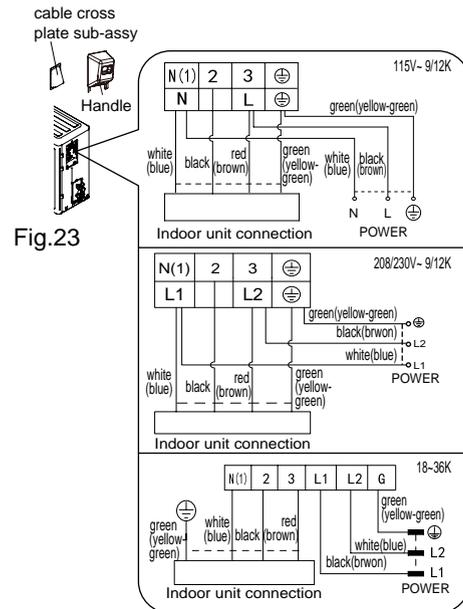

Fig.23
- (1) Let the connection wire sleeve go through the two holes of baffle; tighten the connection joint of sleeve and baffle; remove the wire clip; connect the power connection wire and power cord to the wiring terminal according to the color; fix them with screws.
- (As show in Fig.23)